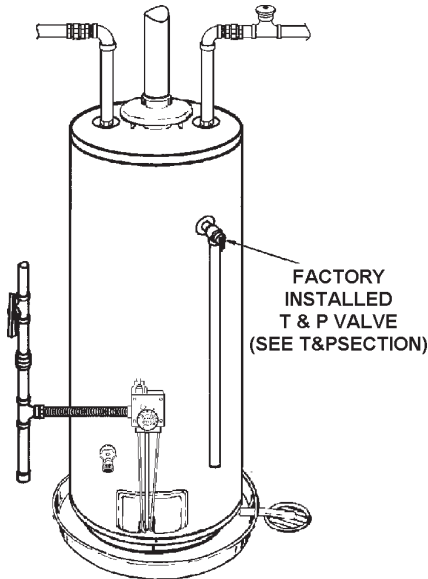

FIGURE 15.
(See Figure 15)
6. Connect the flexible gas connector to the incoming gas line using the end with the 1/2" female fitting, a 1/2" threaded nipple is available if needed. The 1/2" male fitting on the other end is to be connected to the gas thermostat. Make sure that the gas type you have is the same as the gas type indicated on the rating plate. Make sure that all connections are tight. All threaded fittings must have teflon tape or pipe dope (which is resistant to the action of liquefied petroleum (L.P. Gas) applied, see Figure 15.